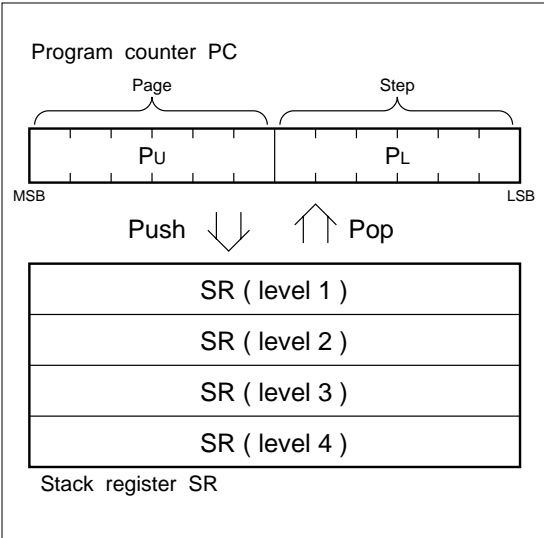

Fig. 6 Program Counter PC and Stack Register SR
A ROM address is specified by the program counter (PC). The PC comprises 12-bit where 6-bit (PU) are used to specify the page (see Fig. 6) and 6-bit (PL) are used to specify the step. PU is a register and PL is a binary counter.